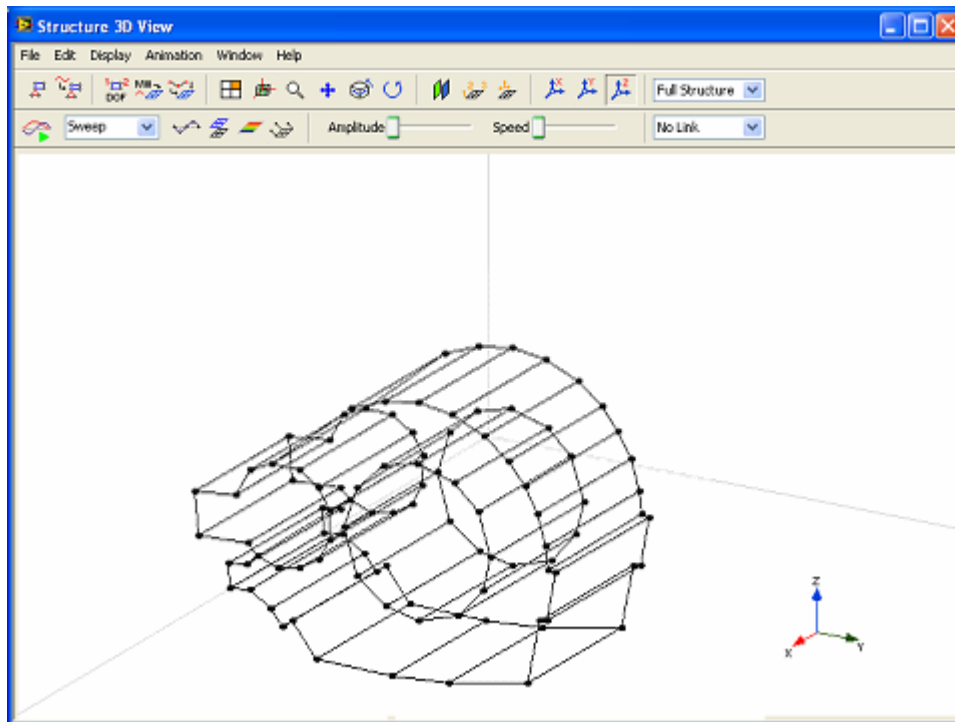

Figure 2-11 3D structure model of the gearbox
- Specify the extrude direction and distance as X axial and 300, respectively, click OK button. The 3D structure model of the gearbox is automatically generated from the 2D profile, as Figure 2-11 shows.